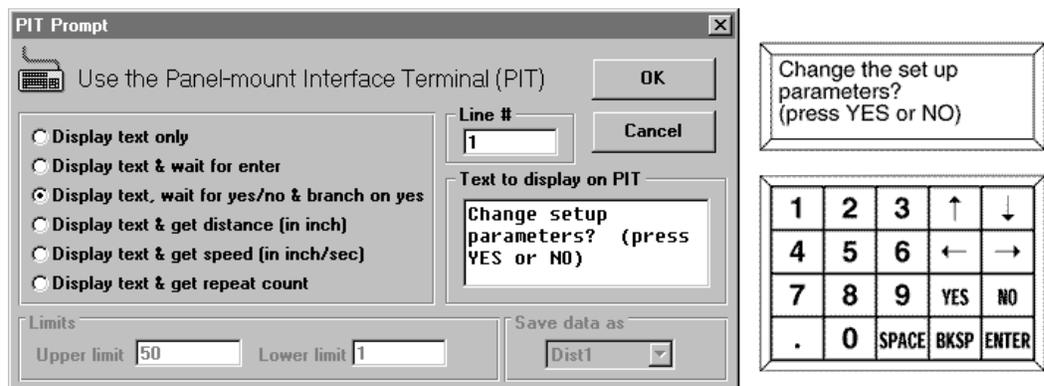

Figure 38 - PIT BRANCHING
**TO LET USER MAKE A DECISION (PIT BRANCHING) (SEE FIG. 38):**